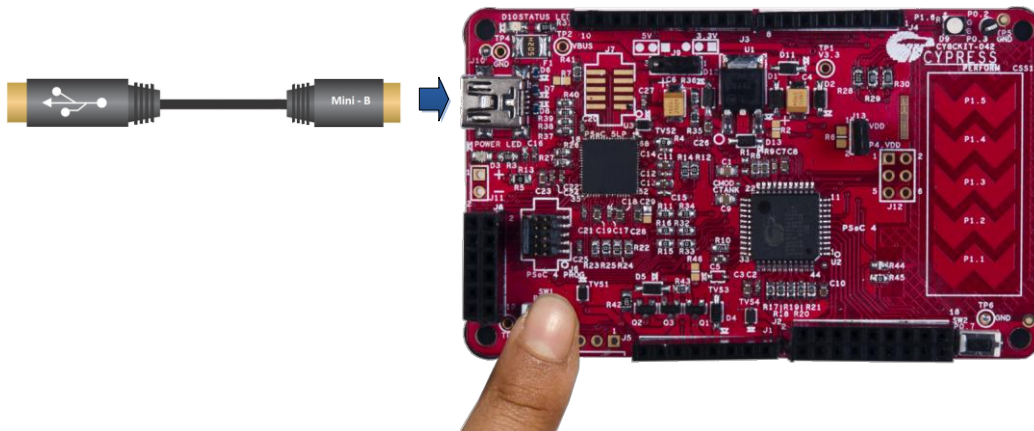

Figure 10: Holding SW1 to Enter Bootload Mode
- Connect the USB Cable (Type A header) into any of the USB 2.0 ports in the PC. Now hold the switch SW1 in the Pioneer kit and plug in the USB cable as shown in Figure 10. The status LED D10 in the Pioneer kit should start blinking. It indicates that the PSoC 5LP has entered bootloader mode.